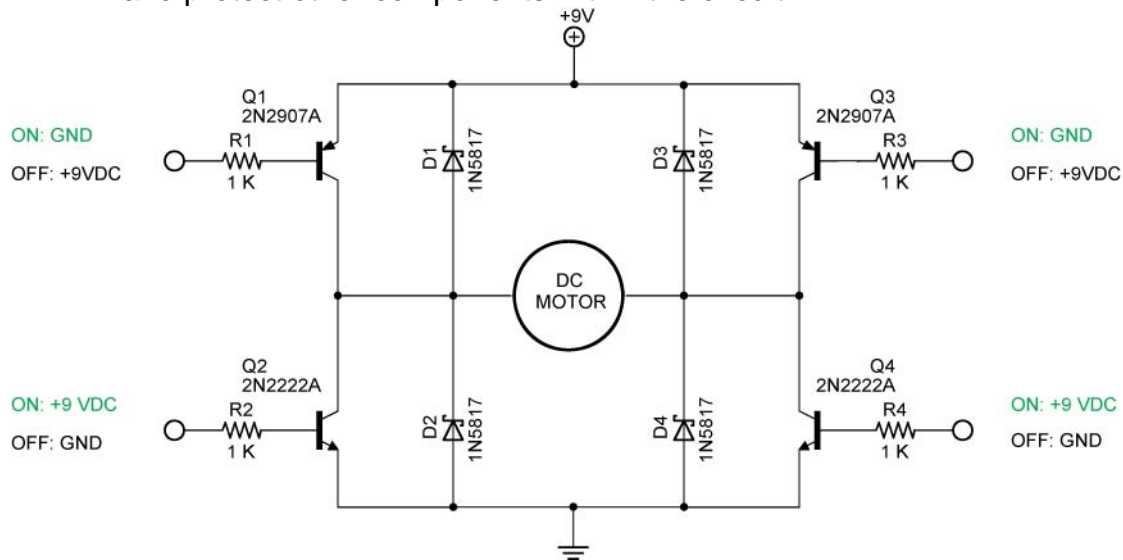

Figure 4: Bipolar NPN and PNP H-Bridge Motor Driver Circuit
- The transistors used in Figure 4 have a peak collector current of 800 mA.